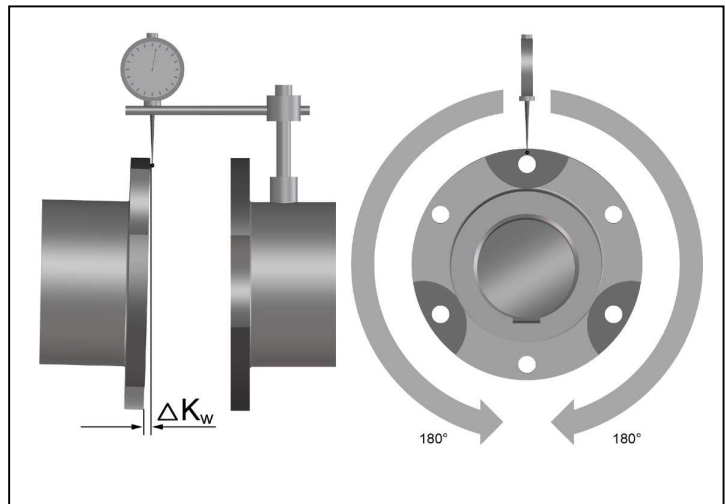

Fig. 7
- Measure one complete rotation (360°) on the face of the outer diameter. Determine the largest deviation K_{w1} and the smallest deviation K_{w2} (Fig. 7). Calculate the angular misalignment: